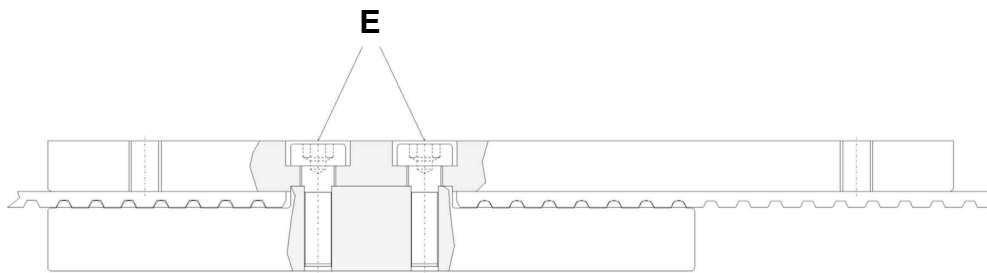

Figure 17: Open the Driver
- Open the driver by undoing the connecting screws (see Figure 17, **E**).
- Connect the toothed belt with the driver (see Figure 17, **E**).
- Open the driver by undoing the connecting screws (see Figure 17, E).